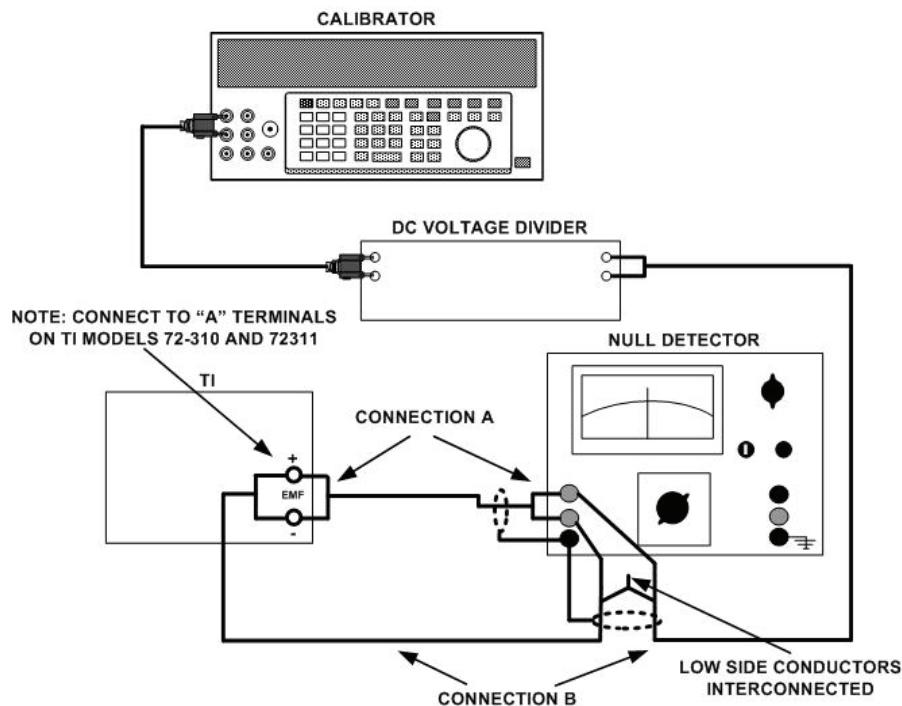

Figure 1. Output accuracy - equipment setup.
- d. Connect equipment as shown in figure 1, connection A.
- (4) Turn **FUNCTION** switch to **OUTPUT 1**. Null detector will indicate between 0 and 50  $\mu$ V.
- (5) Connect equipment as shown in figure 1, connection B.
- (6) Set dc voltage divider controls to **.1000000**.
- (7) Set **MILLIVOLTS** switch to **20** and adjust calibrator for **0.20000 V**.
- (8) While increasing sensitivity of null detector, readjust output of calibrator to obtain best null on null detector. Output of calibrator will be between 0.1994 and 0.2006 V.
- (9) Repeat technique of (7) and (8) above, using values in tables 3. Calibrator output will be within limits specified.
- (4) Connect equipment as shown in figure 1, connection A.
- (5) Turn **FUNCTION** switch to **COMP SET** and **COMP** switch to **ON**. Adjust **COMP** control for null indication on TI galvanometer. Turn **COMP** switch to **OFF**.
- (6) Turn **FUNCTION** switch to **OUTPUT X1**. Null detector will be between 0 and 20  $\mu$ V.
- (7) Connect equipment as shown in figure 1, connection B.
- (8) Repeat (5) above.
- (9) Set dc voltage divider controls to **.1000000**.
- (10) Adjust output of calibrator to **0.10000 V** and set **MILLIVOLT** switch to **10**.
- (11) Readjust calibrator to obtain best null on null detector. Calibrator will indicate between 0.09975 and 0.10025 V.
- (12) Repeat technique of (10) and (11) above, using values listed in table 4. Calibrator output will be within limits specified.